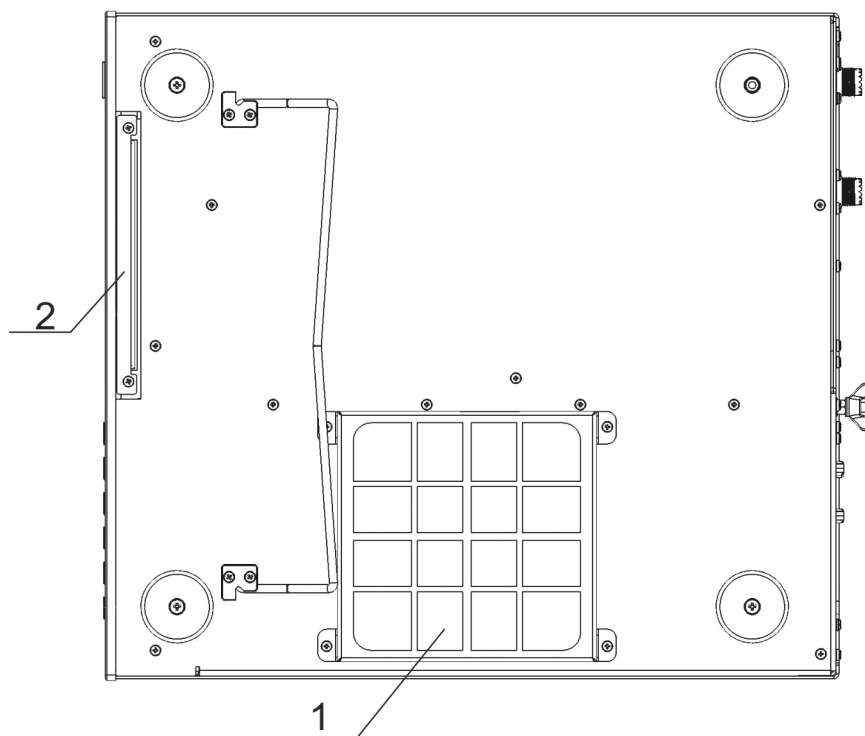

Fig. 7-1 – Bottom view - Air filters
ACOM 1200S has two air filters that are accessible from the bottom - see Fig. 7-1. Use a Philips-1 screwdriver to remove the square filter cover from the PA air filter (1). Remove the cover and take out gently the foam-like plastic filter. To remove the PS air filter (2) unscrew the 2 mounting screws. Using a small flat screwdriver or tweezers gently lift the filter tray away from the amplifier body. Carefully clean the filters and covers from dust, wash them with tap water and *leave them to dry up before you mount them back*.